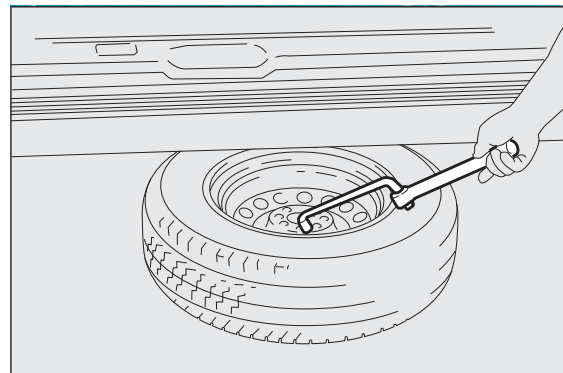

fig. 173
- ☐ use the wheel dismantling spanner to remove the wheel from the vehicle fig. 173;